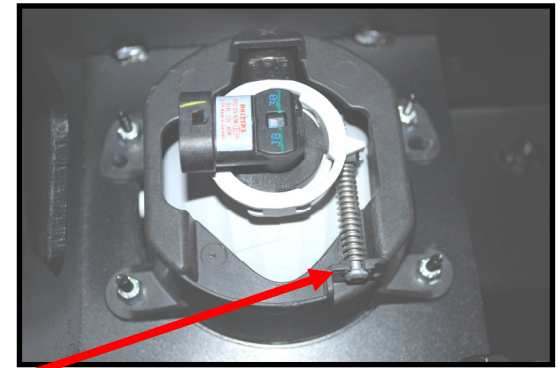

Figure 2
Step 5 – Install factory fog lights into Hyline Front Bumper. Make sure the adjustment screw is facing toward the bottom of the bumper. There is a hole in the bumper to allow adjustment after Installation. Assemble fog lights using supplied 8-32 Lock Nuts and Flat Washers. Tighten the nuts with 11/32” Deep Socket or Nut Driver. (See Figure 2)